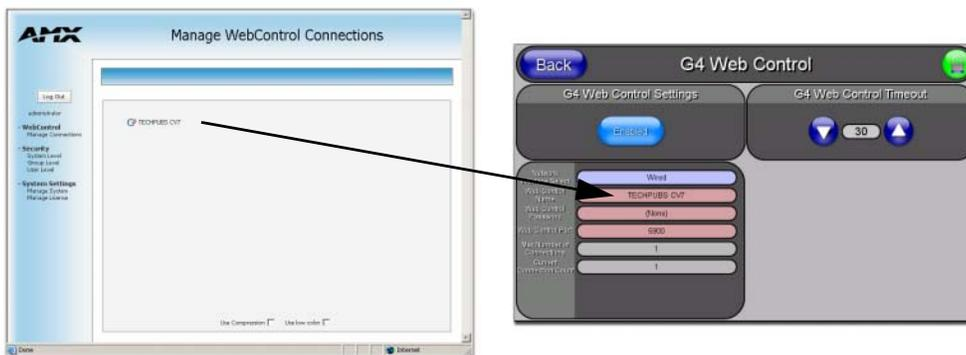

FIG. 66 Sample relationship between G4 Web Control and NetLinx Security-Mange WebControls window
9. From the Web Name keyboard, enter a unique alpha-numeric string to identify this panel. This information is used by the NetLinx Security Web Server to display on-screen links to the panel. *The on-screen links use the IP Address of the panel and not the name for communication (FIG. 66).*